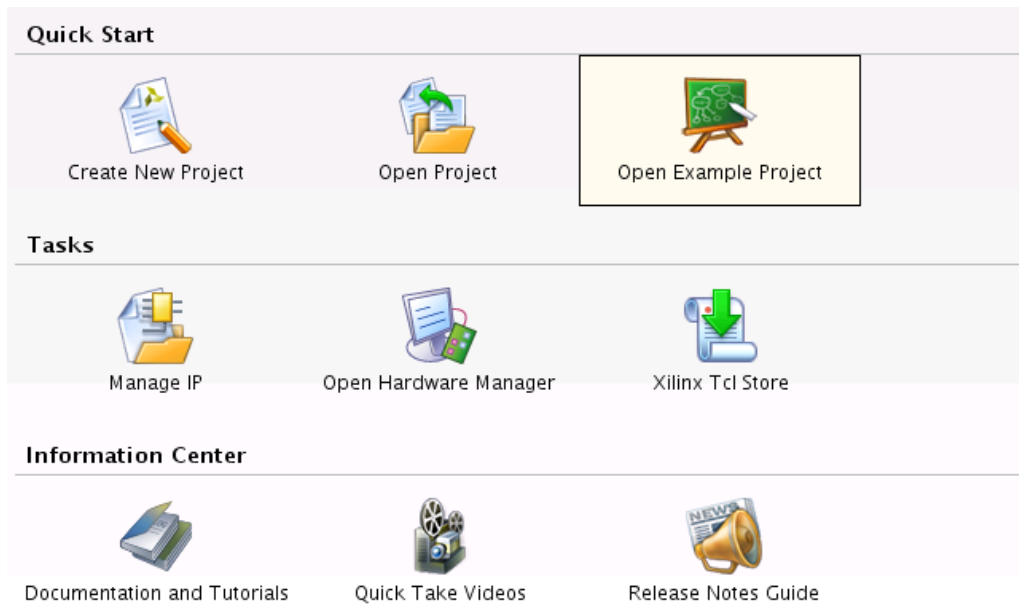

Figure 1: Open Example Project
2. From the Getting Started page, click **Open Example**, as shown in Figure 1.